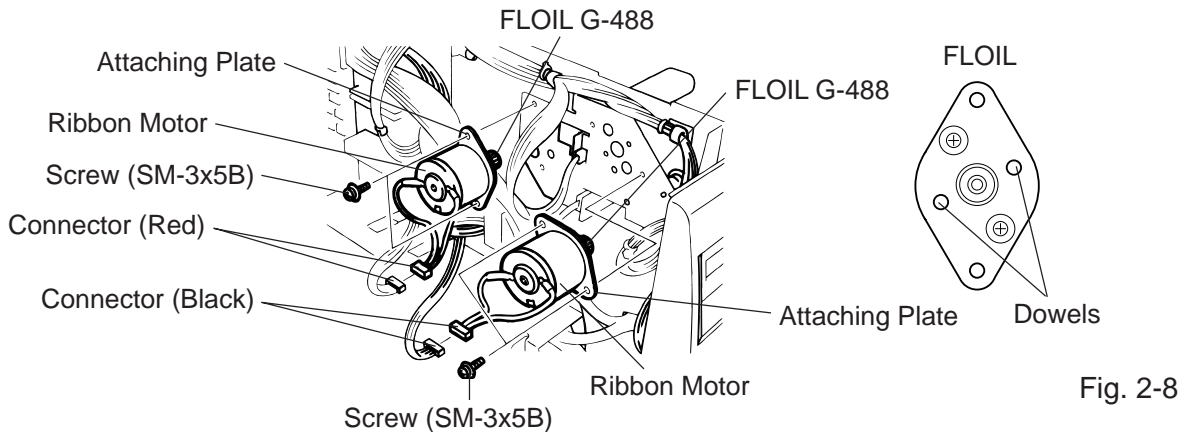

Fig. 2-8
1. NEVER separate the ribbon motors from the attaching plate (bracket), because doing so will change their adjustment. (See Fig. 2-8)